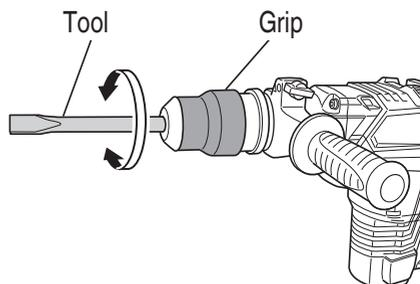

Fig. 8
- (b) Turn the grip or the tool as illustrated in Fig. 8 and fix the tool to the desired working direction.
- (c) Switch the selector lever to “hammering” according to the procedures mentioned in the above item (1) and secure the position of the tool.